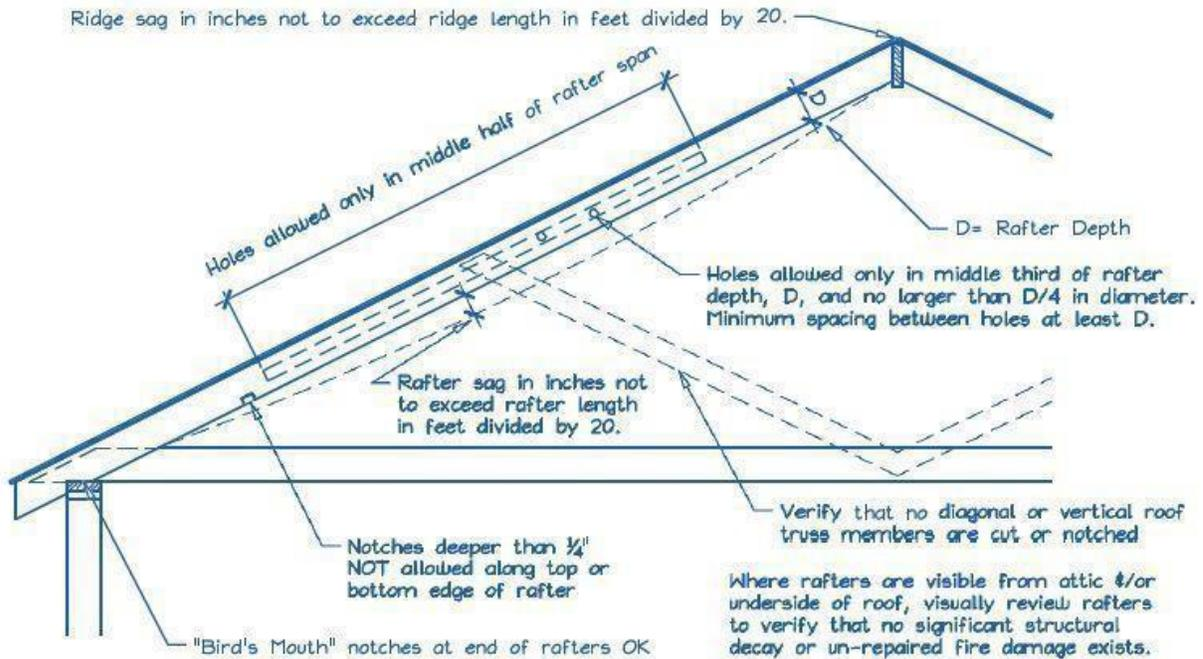

Figure 1 Roof Visual Structural Review (Contractor's Site Audit) of Existing Conditions.
- _____ 2) Does the roof structure appear structurally sound, without signs of alterations or significant structural deterioration or sagging, as illustrated in Figure 1?